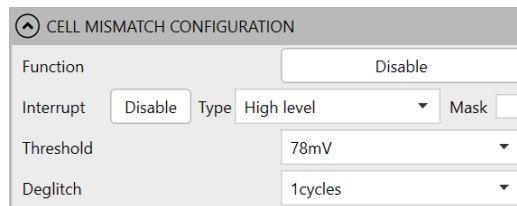

Figure 24: Cell Mismatch Configurations
26. Figure 24 shows how to configure the cell mismatch parameters, where the cell mismatch threshold (Threshold) ranges between 0mV and 1211mV.